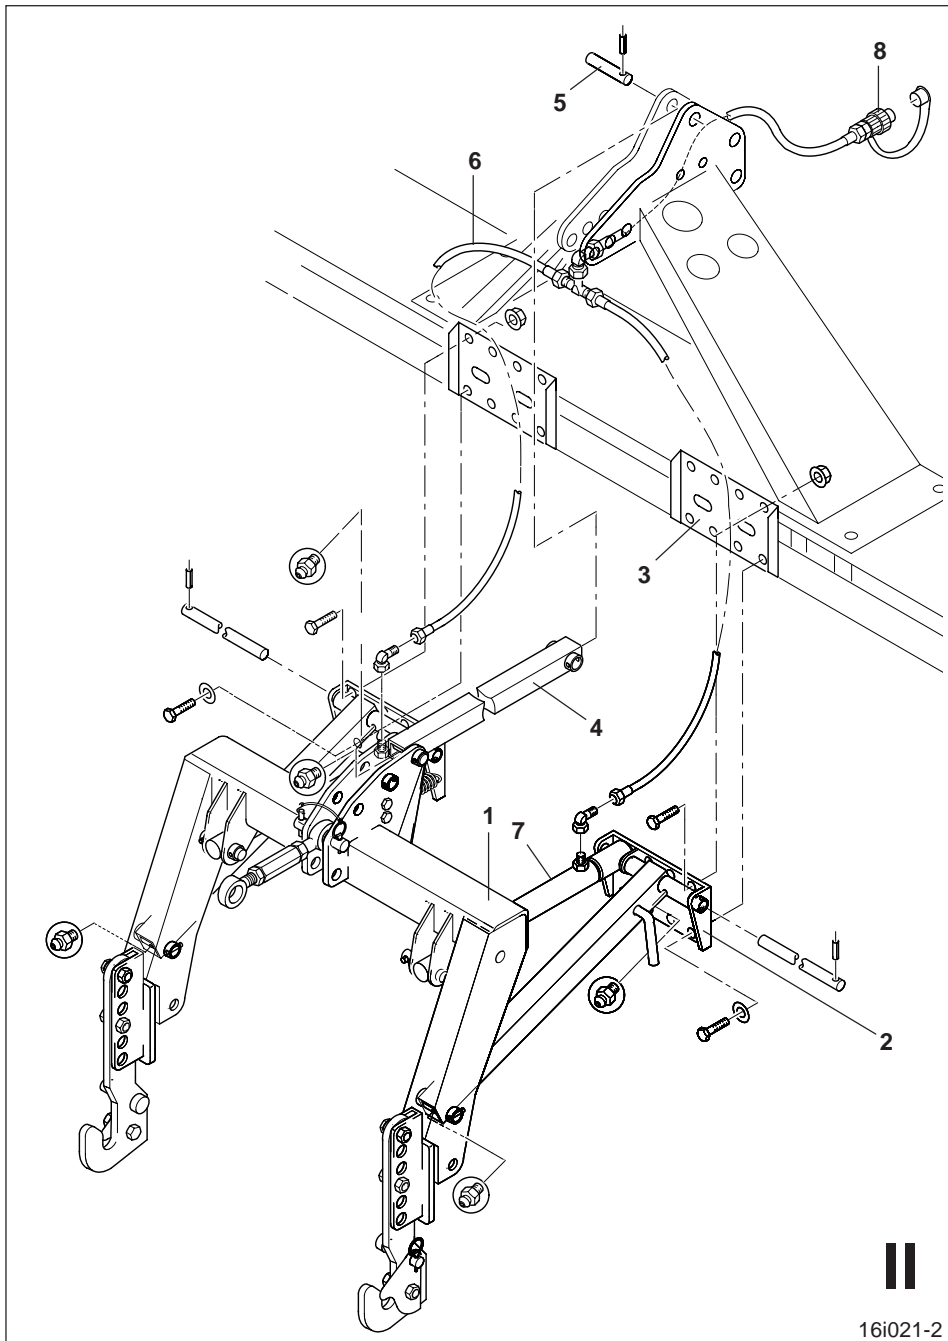
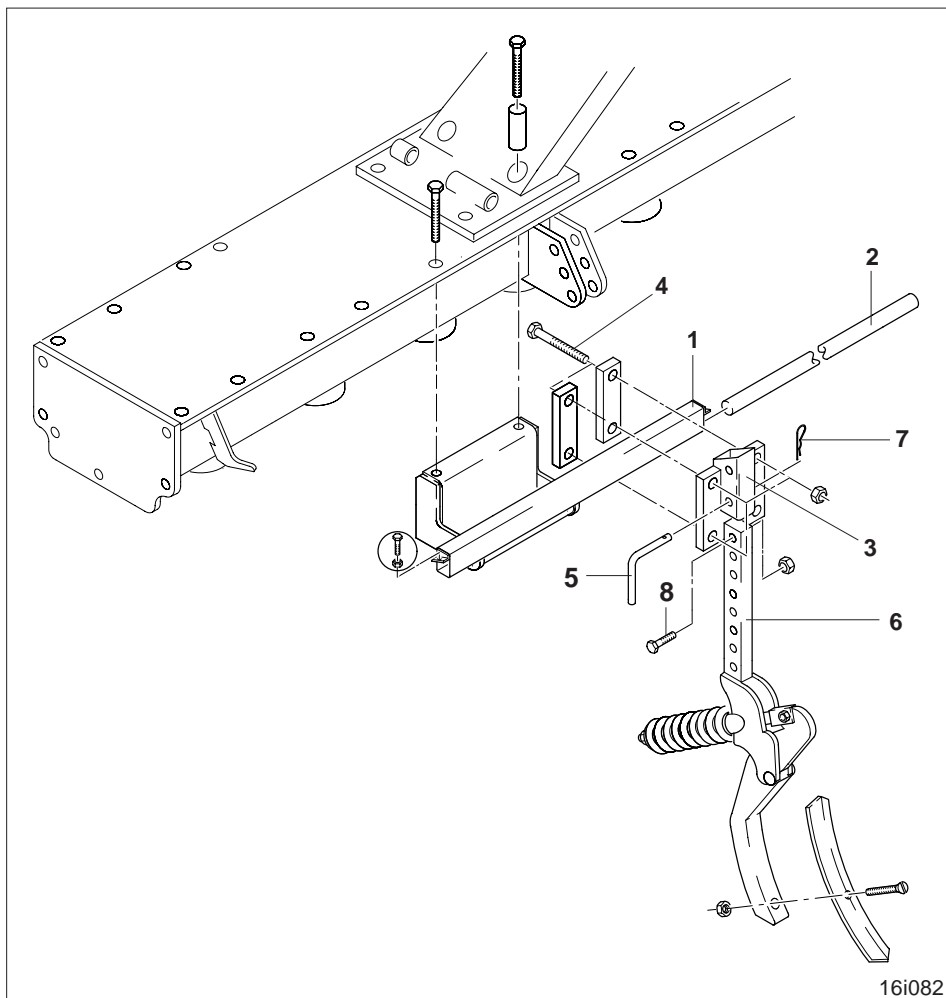
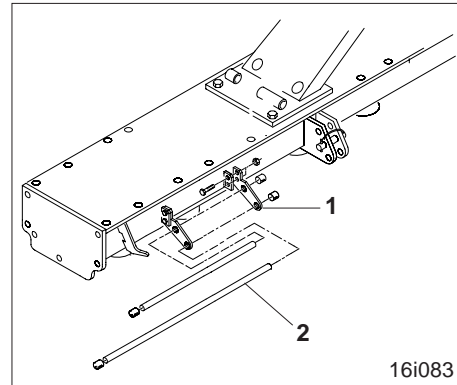

Fig. 13.3
Fig. 15.1
Fig. 15.2
- Attach the lifting frame (Fig. 13.3/1) to a hoist.
- Bolt the plates (Fig. 13.3/2) of the lifting frame to the plates (Fig. 13.3/3) of the soil tillage implement using each 5 hex. bolts.
- Attach the top link (Fig. 13.3/4) to the upper three-point of the soil tillage implement using a pin (Fig. 13.3/5) and secure using a linch pin.
- Connect the pre-assembled hydraulic hose (Fig. 13.3/6) to both hydraulic rams (Fig. 13.3/7) and attach it to the soil tillage implement using cable clamps.
- Connect the coupling plug (Fig. 13.3/8) on the tractor to a single acting control valve (please also refer to note in para. 13.0). Pressurise the lifting frame by activating the control valve in the tractor cabin and check the hydraulic system for leaks. If necessary eliminate any existing leaks.
**If the wheel mark eradicators are to be removed, the support tube (Fig. 15.1/1) and the protective tube (Fig. 15.1/2) must remain on the soil tillage implement of the soil tillage implement must be equipped with guarding bars (Fig. 15.2)! The soil tillage implement must not be put into operation without guarding bars!**
Before parking your soil tillage implement, lock the wheel mark eradicator tines (Fig. 15.1/6) at the top position of the support (Fig. 15.1/3) to prevent damage to the wheel mark eradicator tines.
When delivered, two wheel mark eradicators (Fig. 15.1) are attached to the soil tillage implement.
- Push the support (Fig. 15.1/3) on the support tube (Fig. 15.1/1) into the correct position (tractor track). First loosen the hex bolts (Fig. 15.1/4) and retighten them firmly when work is finished.
- The working depth of the wheel mark eradicator tines can be adjusted. To adjust the working depth, the pin (Fig. 15.1/5) is to be inserted into the required hole in the support (Fig. 15.1/3) and in the wheel mark eradicator tines (Fig. 15.1/6) and secured in place using a spring clip pin (Fig. 15.1/7).
**The safety bolt (Fig. 15.1/8) prevents the wheel mark eradicator tines from falling through the support clip (Fig. 15.1/3) and getting lost if the pin (Fig. 15.1/5) should loosen.**
Remove the guarding bars (Fig. 15.2) attached to the soil tillage implement near the tractor tyres.
Remove the protective supports (Fig. 15.2/1) from the protective tubes (Fig. 15.2/2) and push the protective tubes (Fig. 15.3/4) into the support tubes (Fig. 15.3/1) and slightly tighten each tube using each two hex. bolts (Fig. 13.3/2).
Connect the wheel mark ericator tines (Fig. 15.1/6) with the holder (Fig. 15.1/3) according to para. 15.1.